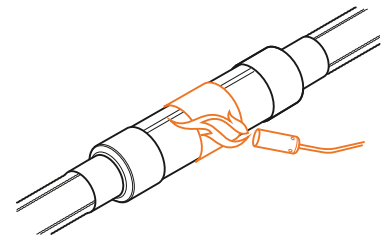

Fig. B11.1.17
17. Using a gas burner, shrink-down the heat shrink band in the same way described in step 6 (Fig. B11.1.17).